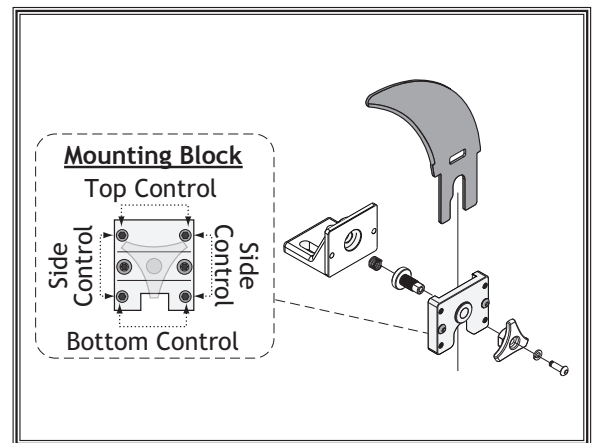

Figure 15. Set screws for adjusting spreader/riving knife position.
The spreader/riving knife mounts to a block that can be repositioned to correctly align the spreader/riving knife to the blade. The mounting block adjusts by turning the set screws in each corner of the block. **Figure 15** shows the set screws associated with controlling the mounting block position. Before proceeding, verify blade-miter slot parallelism, as specified in your original manual.
3. Loosen the two button head cap screws on the mounting block, then adjust the set screws on the block to move it in the necessary direction (see "Mounting Block" inset in **Figure 15**).